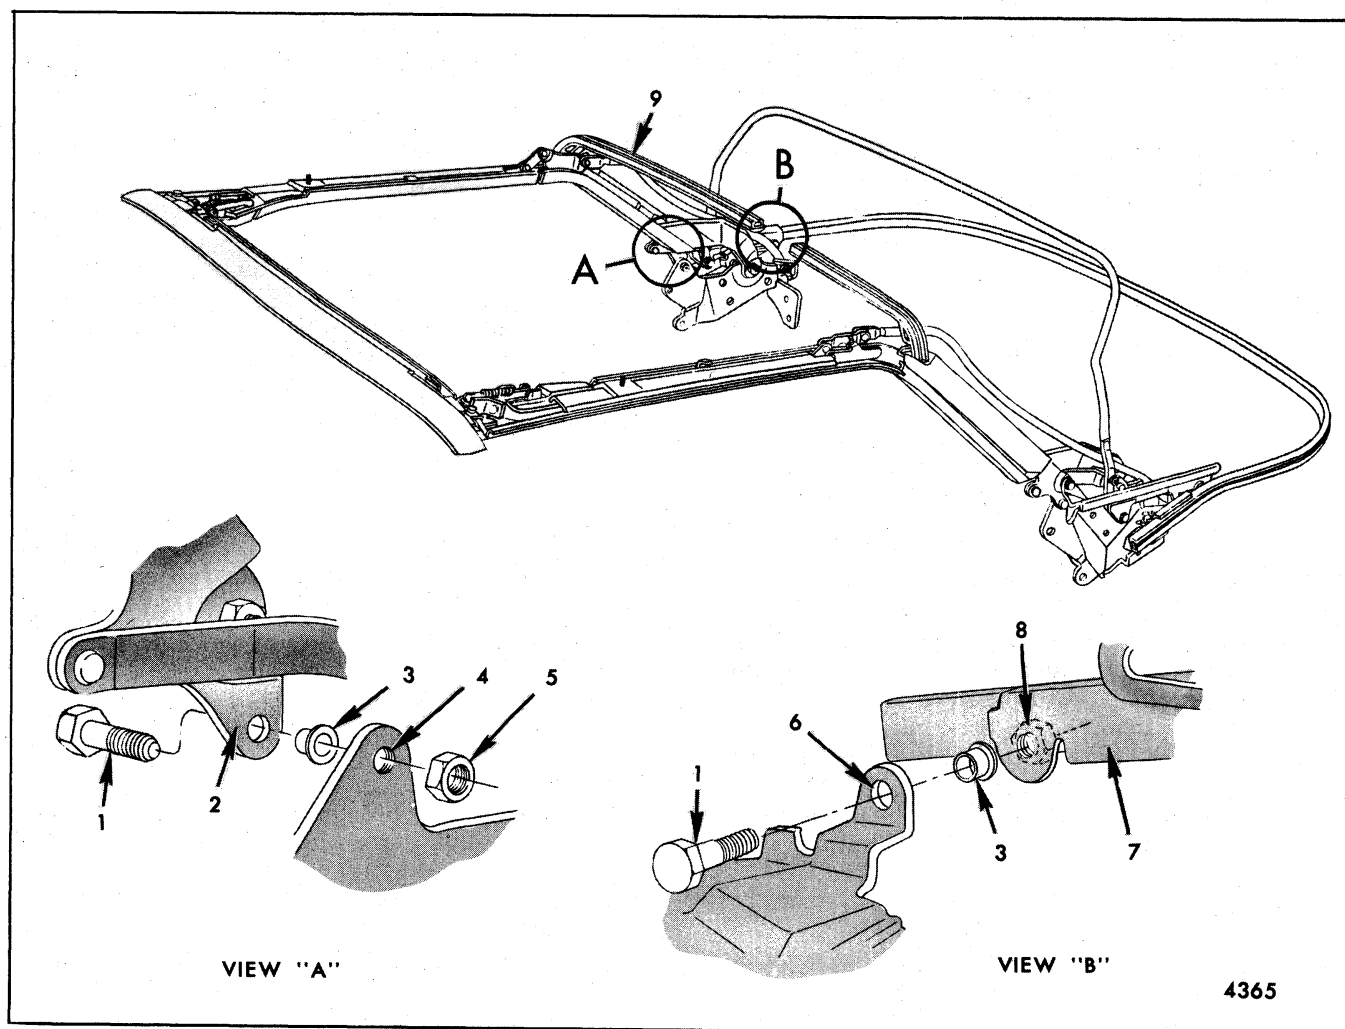

Fig. 8-88-Center Bow Assembly and Rear Trimstick Attachment
- a. With front roof rail several inches above windshield header, remove lower rear bolt (View "B", Fig. 8-88) securing trimstick to main hinge on each side. Bolt is removable toward inside of body. Welded anchor nut remains on trimstick.
- c. With top lowered about halfway, remove front bolt and nut on each side (View "A", Fig. 8-88) securing center bow assembly to main hinge. Bolt enters through bushing and threads into main hinge. Bolt is then secured with lock nut. Bushing is retained in outer rail and contacts main hinge.
- b. Raise top several inches above windshield header. Install bushing in main hinge, align trimstick to main hinge attaching holes and install trimstick attaching bolts (View "B", Fig. 8-88). Use care to avoid dropping bolt. To avoid losing bolt, block openings at wheelhouse with several shop towels.
- c. Lower top halfway. With bushing properly positioned in each outer rail, install attaching bolts (View "A", Fig. 8-88) securing outer rail to main hinge. Each bolt threads into hinge and is secured with lock nut.